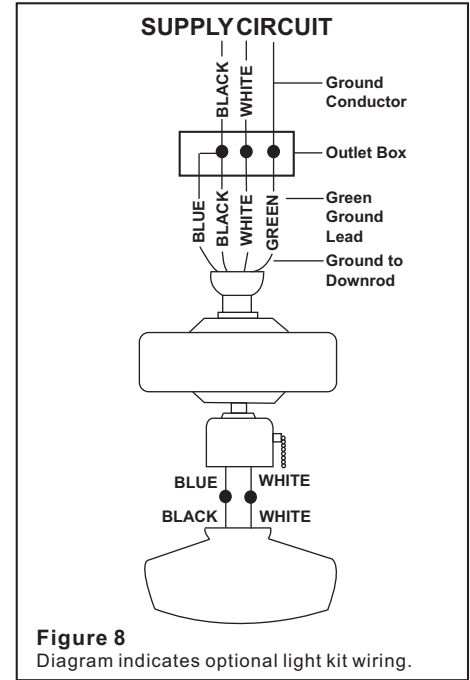

Figure 8
Step 1. Connect the ground conductor of the 120V supply (this may be a bare wire or a wire with green colored insulation) to the green ground lead(s) of the fan. (Figure 8)
Step 2. Connect the fan motor white wire to the supply white (neutral) wire using a wire nut. (Figure 8)
Step 3. Connect the fan motor black wire to the supply black (hot) wire using a wire nut. (Figure 8)